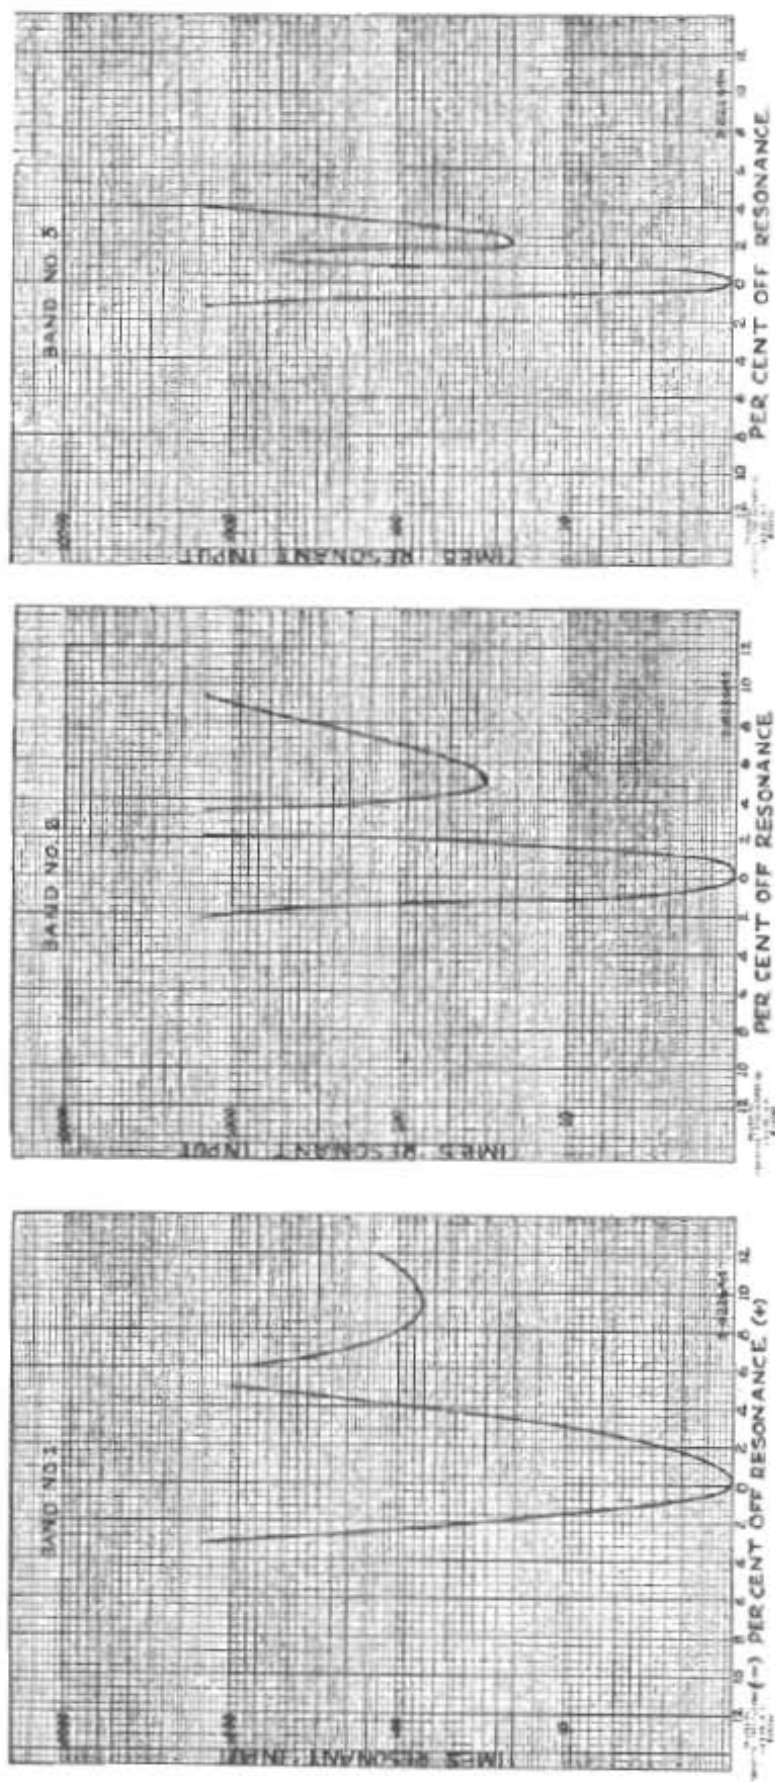

Figure 10—Average Selectivity Curve—CB Interference Bands 1, 2 and 3
11.3-1 Figure 10 shows CW selectivity characteristics for bands 1, 2, and 3. The curves correspond closely with actual conditions at the middle of the band and represent an average for the band. These data are taken by first adjusting the receiver as for sensitivity measurements (par. 11.1) with 6 mw. output at resonance. The input (CW) signal frequency is then varied and the ratios of input off resonance (required to produce 6 mw. output) to the normal (resonant) input is noted. The break in the curve denotes the point where the signal is at *zero beat* with the autodyne detector.